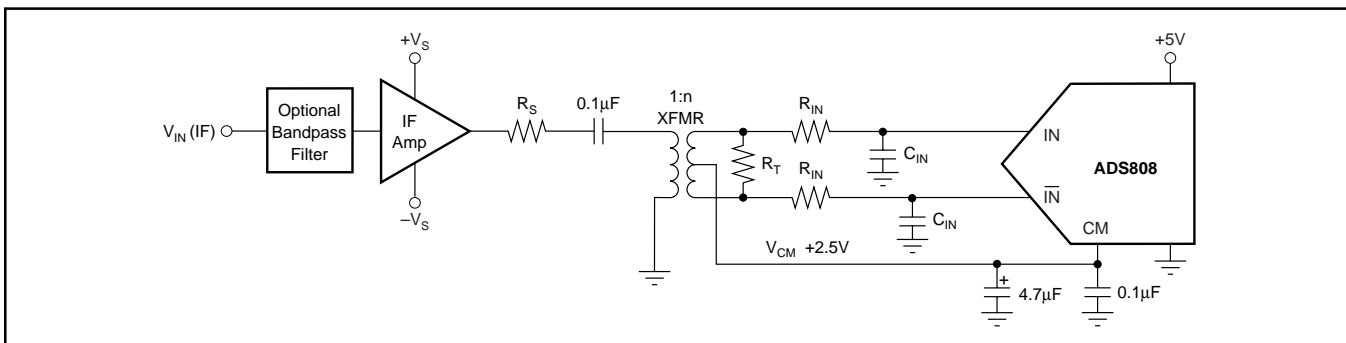

FIGURE 4. Driving the ADS808 with a Low Distortion RF Amplifier and a Transformer Suited for IF Sampling Applications.
One possible interface solution that uses a transformer is given in Figure 4. The input signal is assumed to be an Intermediate Frequency (IF) and bandpass filtered prior to the IF amplifier. Dedicated IF amplifiers, for example the RF2312 or MAR-6, are fixed-gain broadband amplifiers and feature a very high bandwidth, a low-noise figure, and a high intercept point at the expense of high quiescent currents of 50-120mA. The IF amplifier may be AC-coupled or directly connected to the primary side of the transformer.
A variety of miniature RF transformers are readily available from different manufacturers, i.e., Mini-Circuits, Coilcraft, or Trak. When choosing a selection, it is important to carefully examine the application requirements and determine the correct model, the desired impedance ratio, and frequency characteristics. Furthermore, the appropriate model must support the targeted distortion level and should not exhibit any core saturation at full-scale voltage levels. Since the transformer does not appreciably load the ladder, its center tap can be directly tied to the CM pin of the converter, as shown in Figure 4. The value of termination resistor (R_T) should be chosen to satisfy the termination requirements of the source impedance (R_S). It can be calculated using the equation $R_T = n^2 \cdot R_S$ to ensure proper impedance matching.